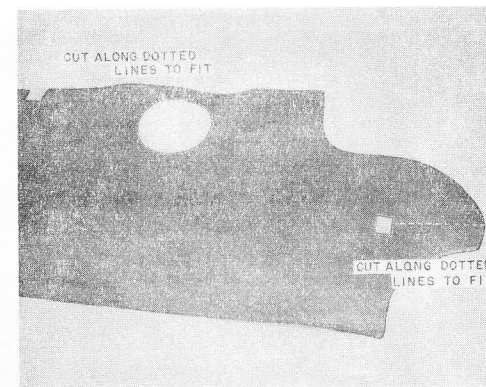

FIGURE 16
1. Reinstall gasoline tank and make fuel connection, after check of installation and before re-installation of luggage compartment deck cover. The cover itself will have to be modified slightly. (See Figure 16)
2. A slot, running from the tip (which, when installed, will be on the left side under the heater) inboard to a square cutout, must be cut. This square is for the inboard foot of the aft heat exchanger mounting bracket. This cover must be modified so as to be removable to provide access to wiring running on the deck of the luggage compartment. (See Figure 16)